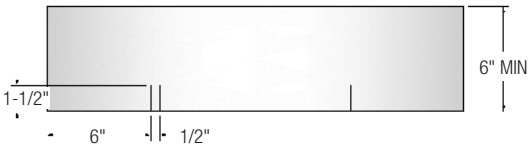

FIG. 6
- C) Cut 1-1/2" slits at each end of the flashing as shown below. (Fig. 6)